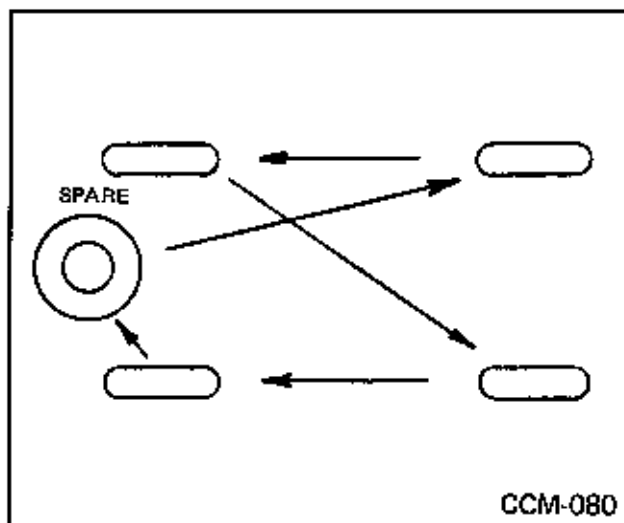

Fig. 75 Tire Rotation
Wheel alignment and rotate the tires every 6,000 miles. Tire life can be prolonged by rotating all four (4) wheels and the spare (Fig. 75) and at the time interval specified.